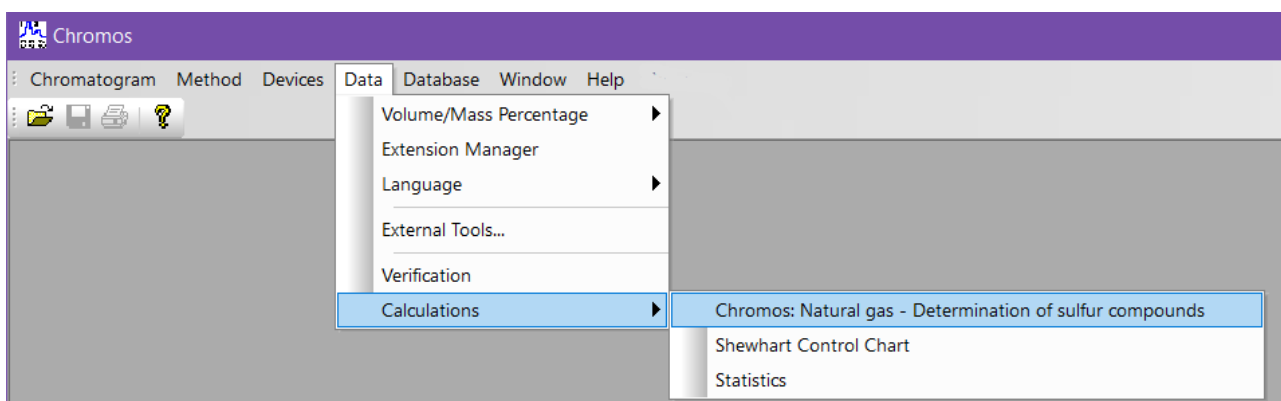

Fig. 2: Running the plug-in
3. In the *Data* menu, navigate to **Calculations > Chromos: Natural gas – Determination of sulfur compounds**. The main program window opens (Fig. 2).